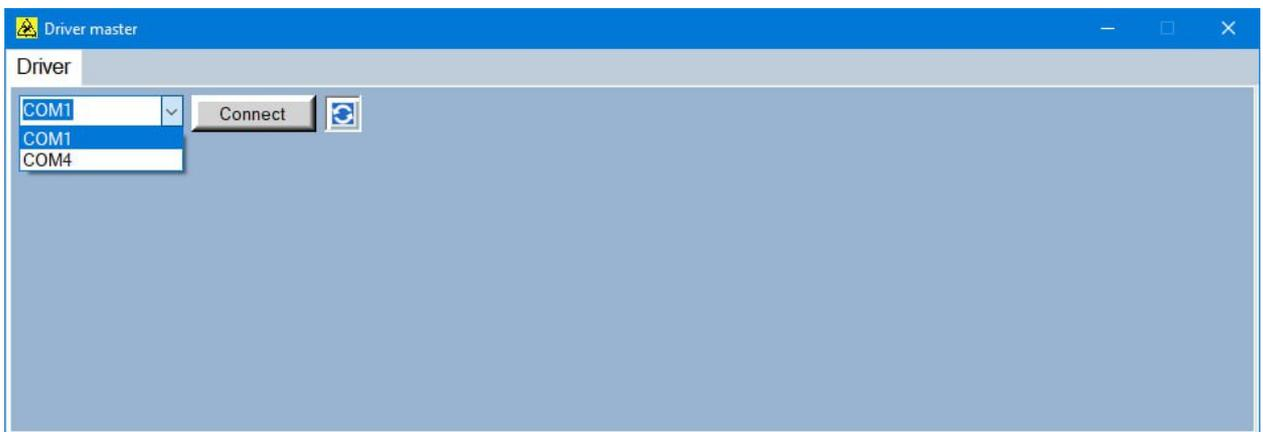

Figure 1: Connection
5. Press ↻ icon to refresh the list of COM ports and select the COM port the driver is connected to from the drop-down menu, then click 'Connect' (fig.1).